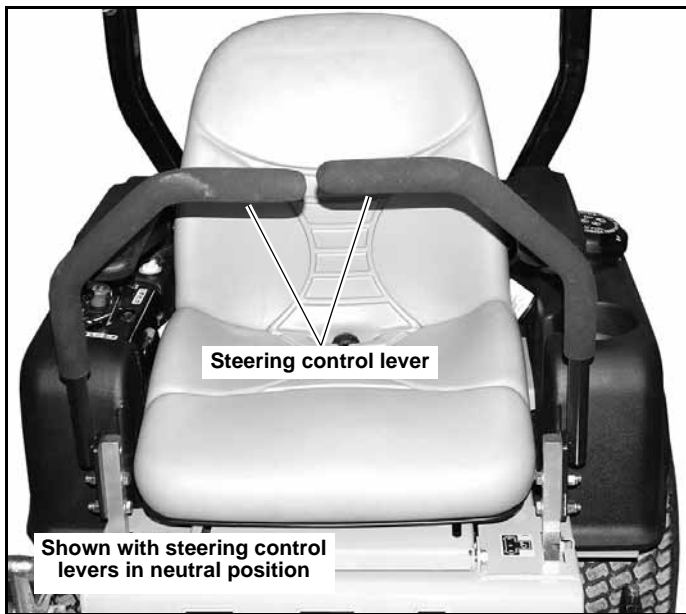
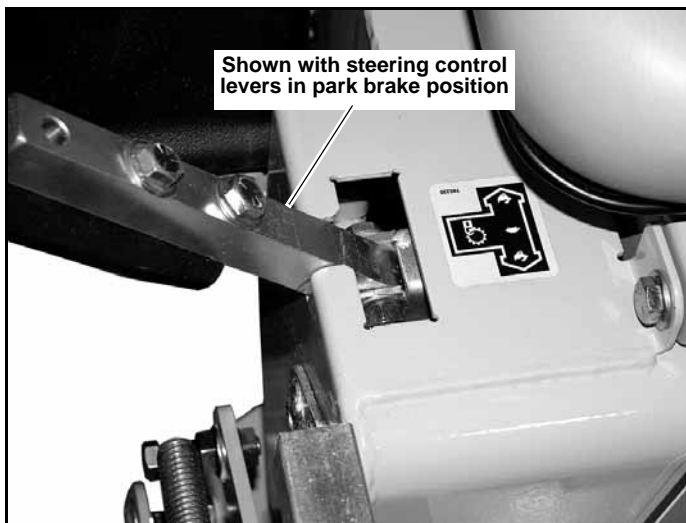

Figure 3-2
Figure 3-3
**A. Steering control levers (Figure 3-2 & Figure 3-3)** — these levers control the mower’s speed, direction, stopping, and park brake. These levers are used to steer, accelerate, decelerate and change direction. When the steering control levers are in the park brake position the mower will not move when the engine is on and the drive pumps are operating.